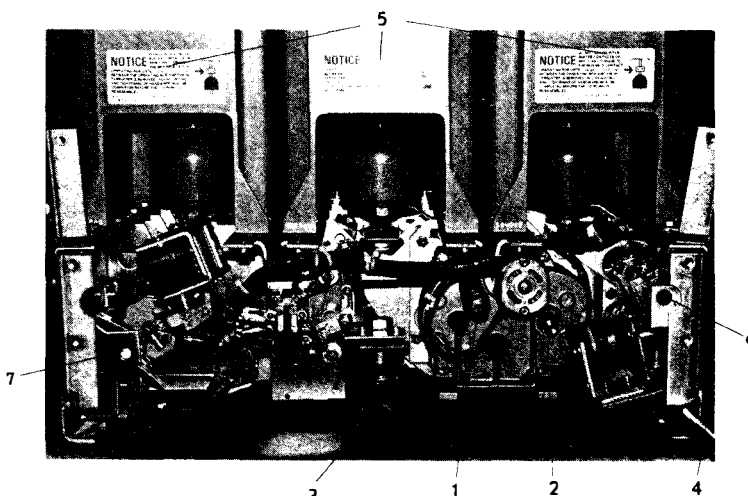
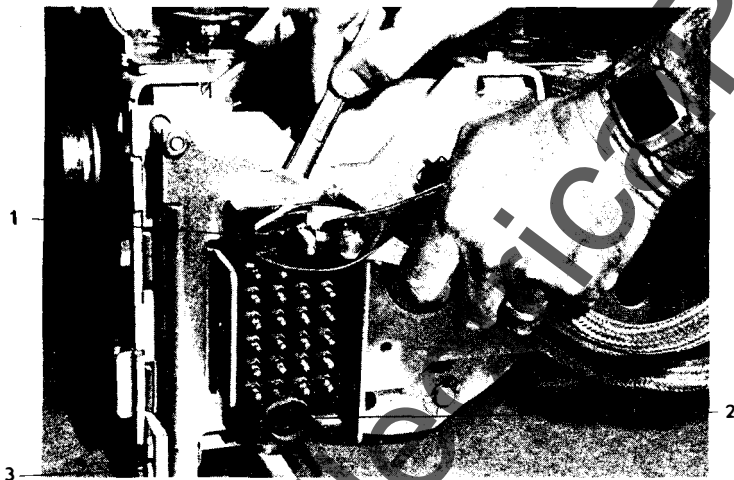
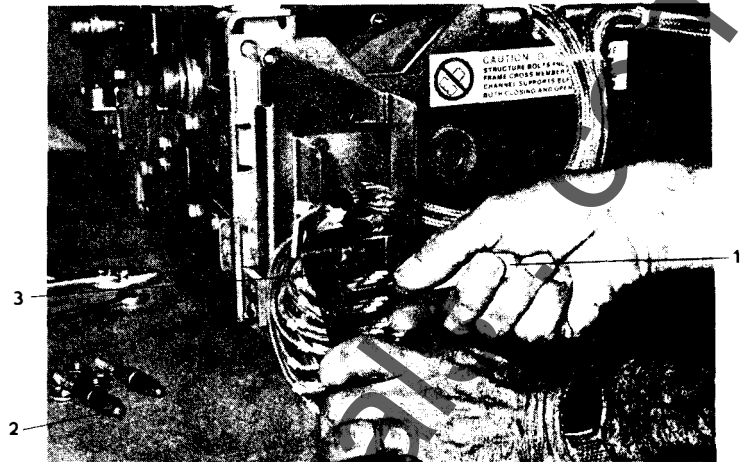

Fig. A1 Power/Vac* Breaker with Front Angle Plate Removed
Fig. A5 Secondary Disconnect
Fig. A6 Secondary Disconnect Pins Being Removed
With the breaker open and the closing spring discharged, remove the breaker front cover. Disconnect the spring from the operation counter. Remove ten bolts holding the front angle plate to the mechanism frame. Remove the 3 sheet-metal wire covers below each vacuum interrupter assembly. Carefully swing the left side of the front angle plate away from the mechanism to disconnect the charge/discharge flag operating rod from the flag. Disconnect the other end of the rod from the spring charge indicator arm. Fig. A1 shows front of breaker with Front Angle Plate removed.
With the front angle plate removed the clutch assembly (1) Fig. A1, may be slipped off the manual drive shaft of the gearmotor.
Remove the front angle plate and the operations counter. The swivel caster, (3) Fig. A1, may be removed by removing bolt holding it to the breaker frame.
To remove the secondary (control power) disconnect block, extend the secondary disconnect handle, (4) Fig. A1, and remove the nuts from the two secondary disconnect guide pins, (1) Fig. A5. Remove the control wiring from the secondary disconnect block using Pin Removal Tool, (1) Fig. A6, P/N 453300-1 from AMP, Inc.
To remove the secondary disconnect handle remove the two bolts, (3) Fig. A5, which connect it to the secondary disconnect assembly at the rear of the breaker. With the bolts removed, pull the handle down and out through the front of the breaker.